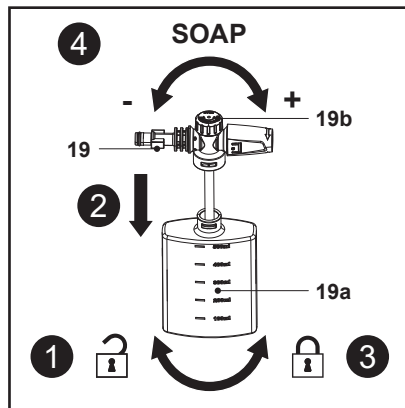

Fig. 11
Refilling and using detergent as shown in Fig. 11.
1. Hold the detergent bottle nozzle (19), then unlock and remove the bottle (19a) (Fig. 11, step 1).
2. Ensure that the water supply pipe is properly secured to the detergent nozzle (19).
4. Place the detergent bottle nozzle (19) onto the bottle (19a) (Fig. 11, step 2).
5. Hold the detergent bottle nozzle (19), then lock the bottle (19a) firmly on it (Fig. 11, step 3).
6. Rotate the adjustable knob (19b) clockwise to perform high-dose soap washing, and counterclockwise to perform low-dose soap washing (Fig. 11, step 4).
7. Assemble the detergent bottle nozzle (19) to the spray gun (15).
8. The detergent bottle nozzle (19) is ready for use.